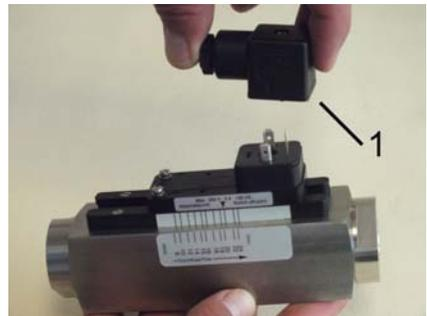

Fig. 20: Remove socket
2. ▶ Remove socket (Fig. 20/1)